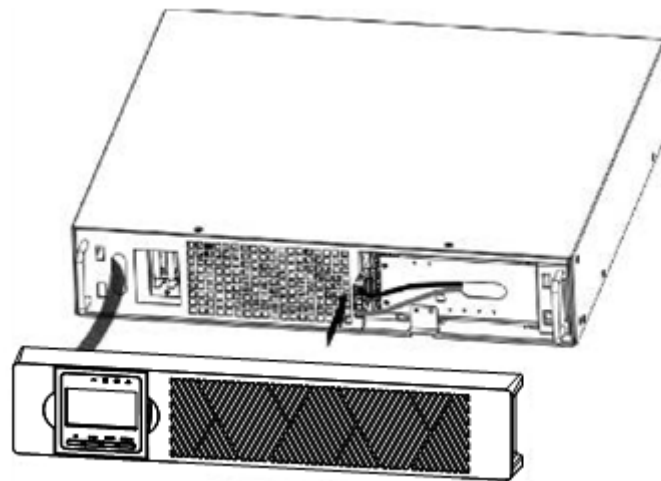

Figure 2: Connecting the UPS internal batteries
- b) Connect the internal battery connector (see Figure 2). Connect red to red, Press the connector tightly together to ensure a proper connection.